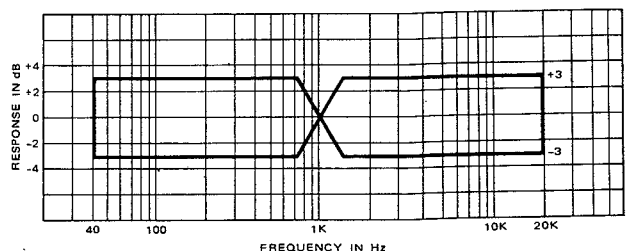

Fig. 7-33. Reproduce Frequency Response
3. Reproduce the test tape and take a reading of the output levels at the specified frequencies shown in Fig. 7-33. They should be with in the specified limits shown below. If they aren't, adjust trim pot R202, 2 k ohms on the record/reproduce amplifier PCB so that the high range 18 kHz signal provides the same level reading as the 1 kHz signal.